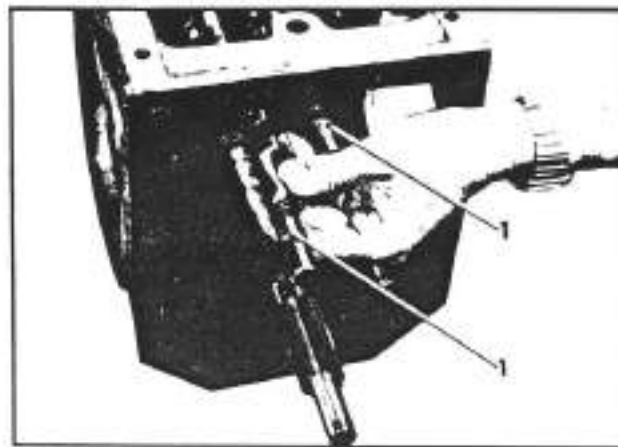

Fig. 3-29. Removal of the speed selector rods
- Extract the speed selector rods (1; fig. 3-29).